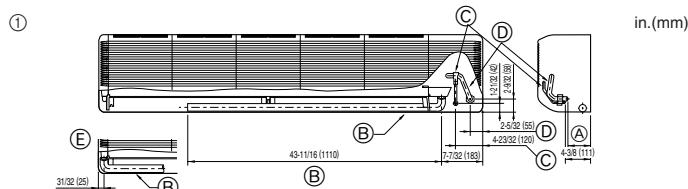

Fig. 4-5
① Position of refrigerant and drain piping (Fig. 4-5)